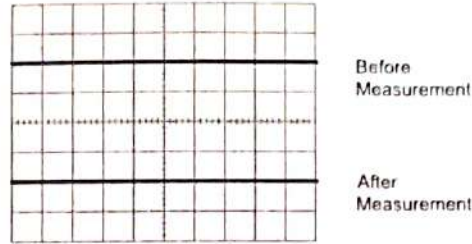

Fig. 5-4
- (1) Set the knobs on the panel to get a sweep baseline.
- (2) Set the coupling mode of the selected channel to be GND.
- (3) Adjust the vertical position to keep the sweep baseline to be on a certain horizontal coordinate (shown as Fig. 5-4 Before Measurement) and define the point as the voltage zero value.
- (4) Feed in the measured voltage to the plug of the selected channel.
- (5) Set the input coupling to be DC. Adjust the voltage attenuator to keep the sweep baseline to be on a proper position on the screen. Rotate the variable clockwise to the calibrated position first.
- (6) Read out the deflected division number in vertical direction, shown in Fig. 5-4, after measurement.
(7) Work out DC voltage using the following formula:
For example, in Fig. 5-4, the sweep baseline is 4 divisions above the original baseline, the vertical deflection factor is 2V/DIV, so: $V = 2 \times 4 \times (+) = +8V$